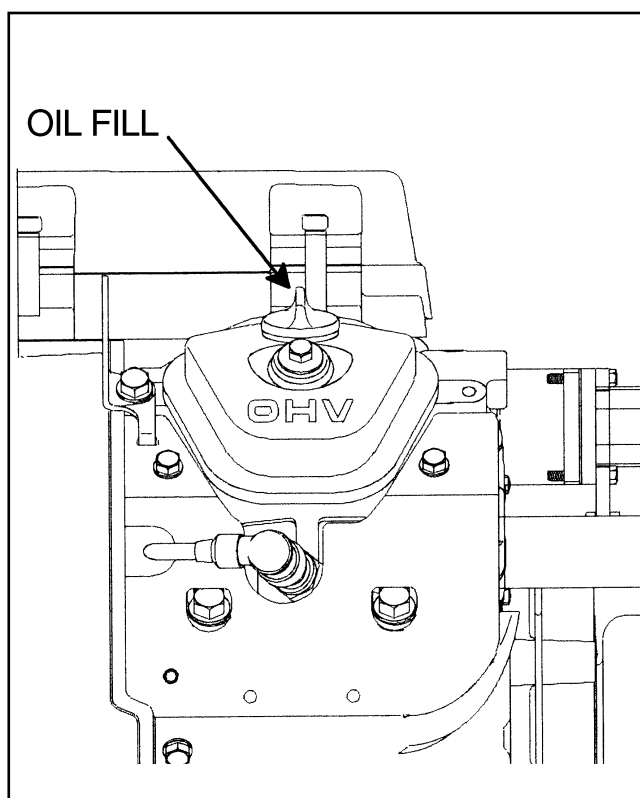

FIGURE 4-2. OIL FILL LOCATION
2. Remove the oil fill cap (see Figure 4-2), remove the hose plug, open the oil drain valve (see Figure 3-2), and allow all of the oil to drain from the engine.